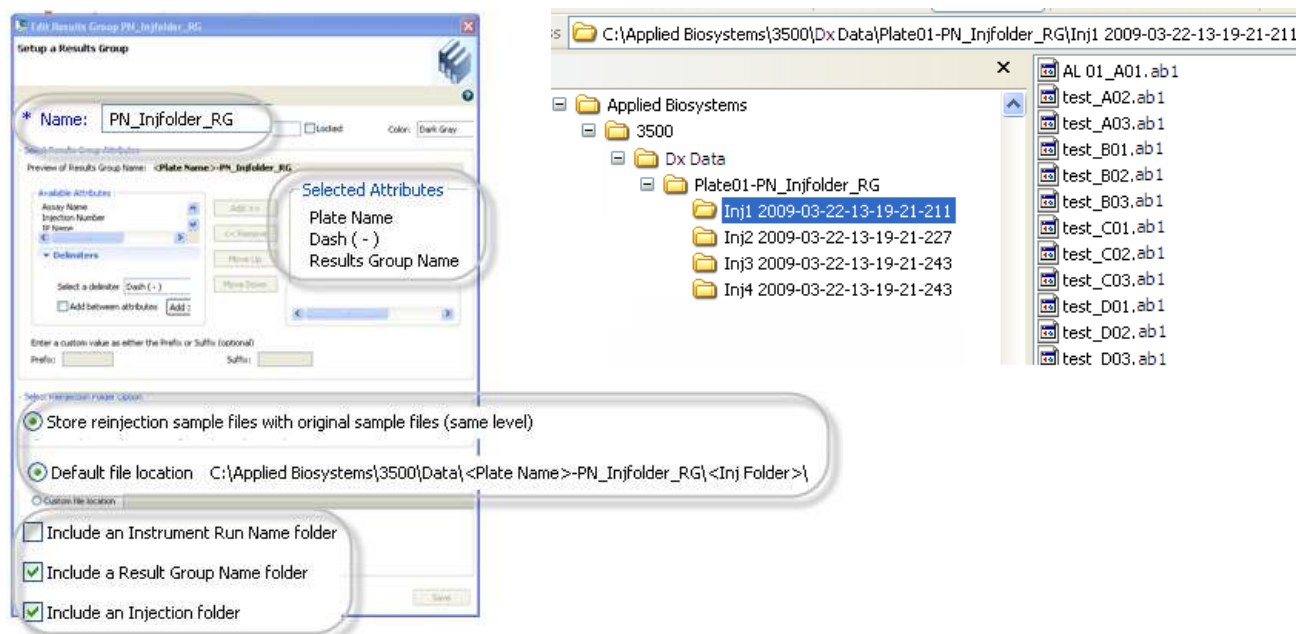

Figure 14 PN_Injfolder_RG results group
- Figure 14 on page 162 shows the factory-provided PN_Injfolder_RG results group and the folders created when it is used. This results group creates a folder for each injection.